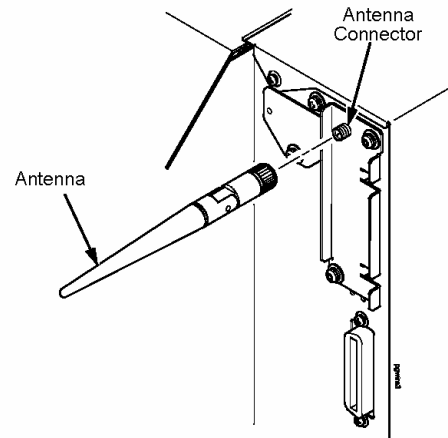

Figure 2a. Installing the WLAN antenna
1. Screw the antenna into the connector on the WLAN card. (**Fig 2a**)